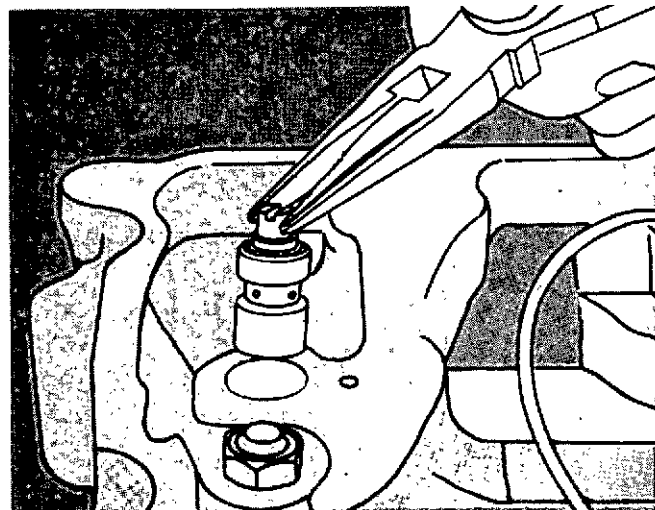

Fig. 20-16. Remove The Control Valve.
3. Remove the control valve. Use needle nose pliers to pull the control valve straight up and out of the bore, Fig. 20-16.